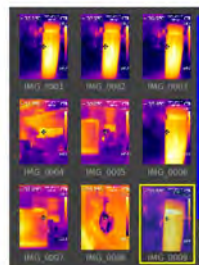

Fig. 27
3. Use the \leftarrow and \rightarrow buttons to scroll through the list of saved images if applicable (Fig. 27).